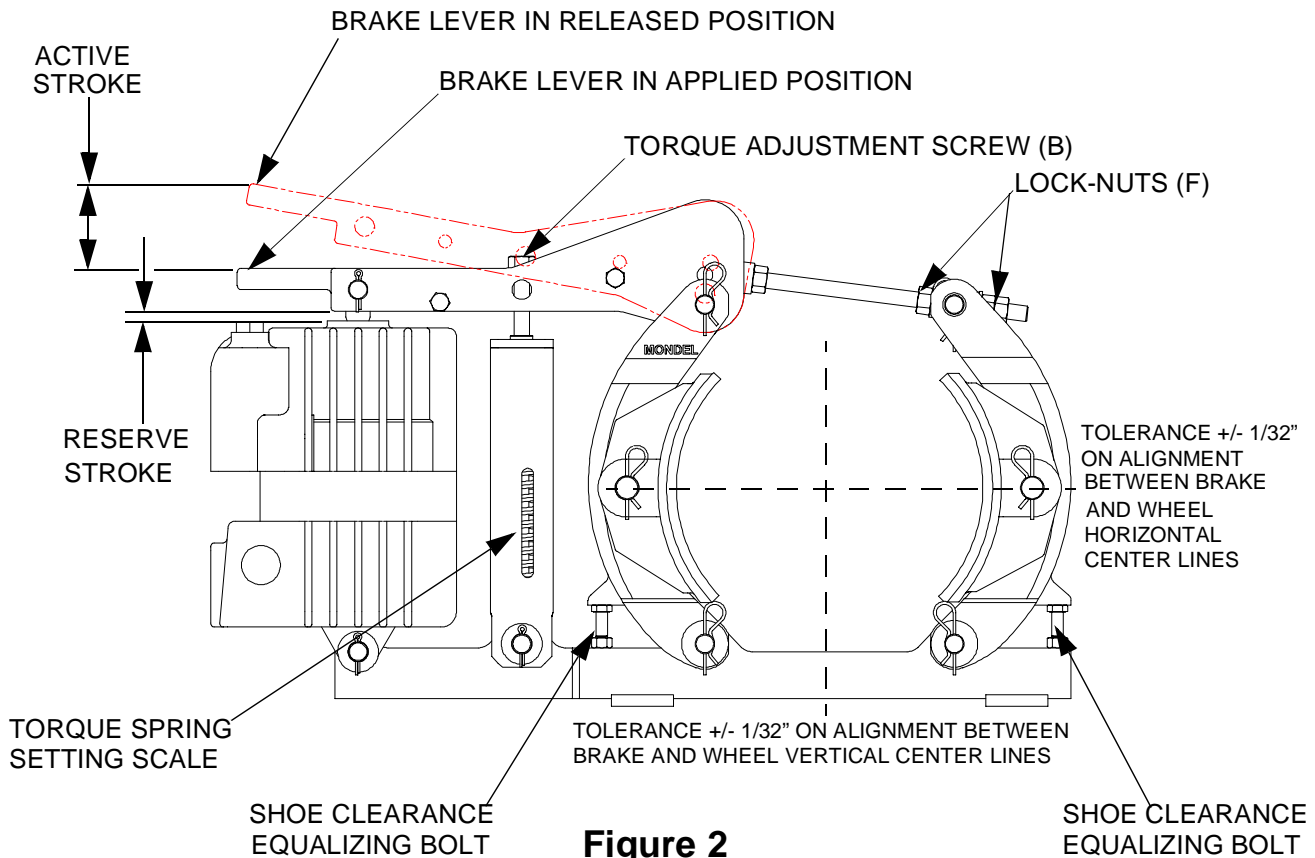

Figure 2
4.2: The actuator piston rod extends when power is applied, the brake-shoe pressure removed and running shoe clearance established. (See Fig. 2).
4.11: Each time the brake is released, the shoes move apart to provide running clearance from the wheel. The actuator's active stroke and brake lever ratio establishes the total clearance available for both shoes. The clearance allocated to each shoe is determined by the setting of the "shoe clearance equalizing bolts". See Fig. 2 and Section 6: "Shoe Clearance Adjustment".
5.3.(a): After installing the brake and wheel, make preliminary adjustments to apply sufficient shoe pressure to raise the actuator piston rod 1/2" above its fully retracted position. (Fig. 2).
maximum of $\pm 1/32$ inch, in three axes (horizontal, vertical, and longitudinal), (Fig. 2).
6.3.(b): To manually release the brake: Adjust the brake rod hex-nuts, (See Fig.2) - to increase the brake rod length - reducing the “reserve stroke” until the piston rod is no longer visible. Continue adjustment until there is sufficient lining to brake wheel clearance.
6.3.(c): To manually apply the brake: Adjust the brake rod hex-nuts, (See Fig.2) - to decrease the brake rod length - increasing the “reserve stroke” until the linings contact the brake wheel. Continue until the brake release lever begins to rise then proceed to “Actuator Stroke Adjustment”.
6.4.(c): Adjust the brake rod hex-nuts, (Fig. 2), until the brake release lever raises the piston rod to the specified reserve stroke, (Table 2). Re-secure the brake rod nuts against the pivot block.